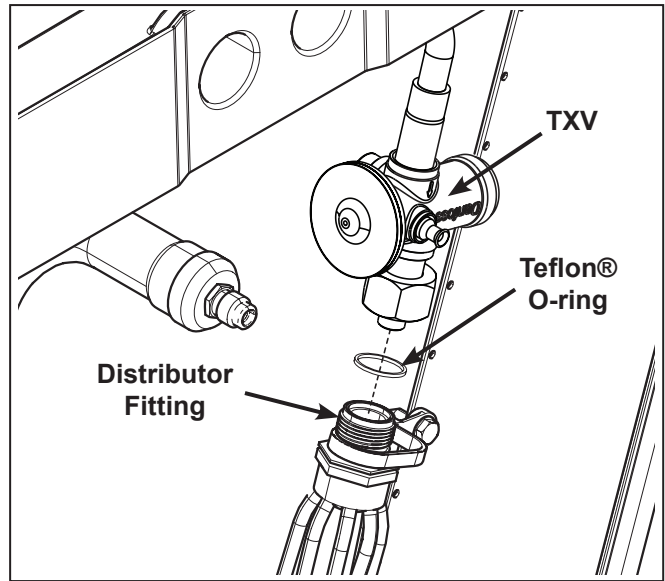

Figure 2
5. To install the coil TXV, install the new O-ring over the distributor fitting (Figure 2). Hand-tighten the nut to make sure there is proper mating of threads. Tighten until bodies “bottom” or a definite resistance is felt. Use a back-up wrench and tighten an additional 1/4 turn. Wrap supplied push-in cable tie around TXV and then insert cable tie barb into coil housing hole.